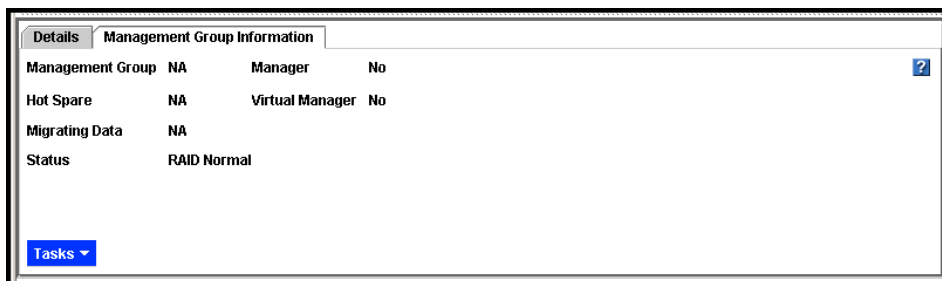

Figure 128. Management Group Information Tab
2. Click the Management Group Information tab in the Tab View, shown in Figure 128.